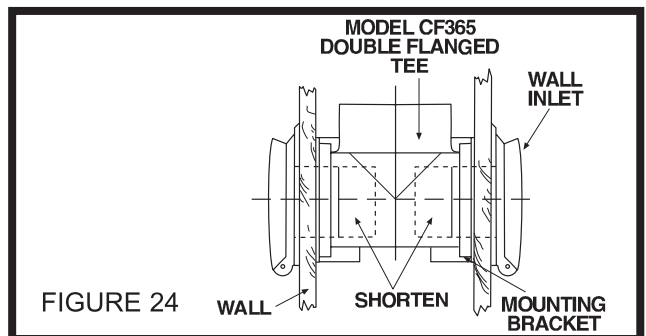

FIGURE 24
**NOTE:** When wall inlets are installed in walls that are less than 1/2" thick or when inlets are installed back-to-back in a wall, the tube of the wall inlet may extend into elbow area of the flanged fitting and cause blockage. Shorten the wall inlet tube to prevent this condition. Refer to Figure 24.